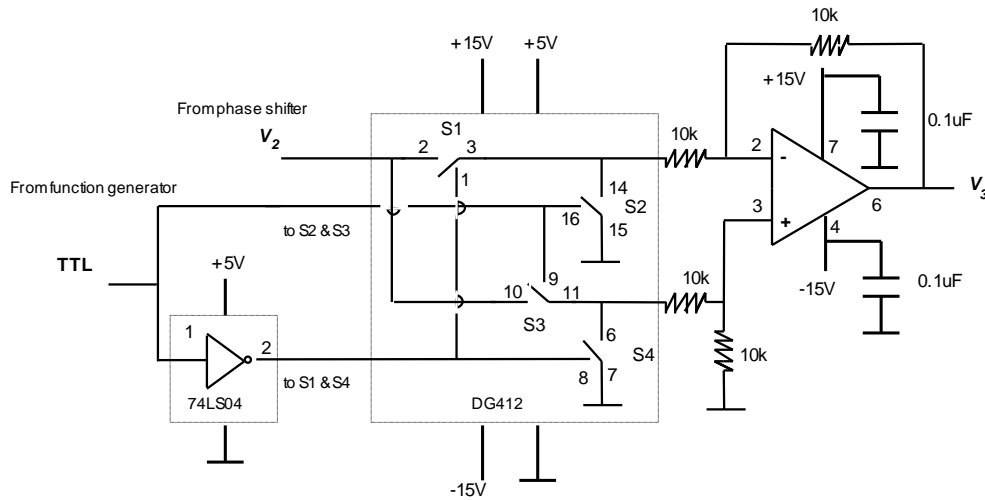

Fig. 3 Switch-based PSD circuit with pin numbers indicated
Fig. 3 shows a switch-based PSD circuit. It consists of an op-amp ($\mu A741$) and a single CMOS switch IC package (DG412) with 4 CMOS switches in it. The four CMOS switches are used to implement the demodulation process and these switches are controlled by two complementary square-wave signals, one from the TTL output of the function generator and the other from an inverter (74LS04). The two complementary square-wave signals drive
- (4) Place 74LS04 on your breadboard and connect 5V power supply to the chip. Connect the square-wave signal from your function generator to 74LS04. Examine the two square-wave signals from the inverter and the function generator, using your oscilloscope. Your oscilloscope screen showing the two signals can be saved to your USB memory. The two signals should be complimentary.
- (5) Add missing pin numbers to the PSD circuit shown in Fig. 3 and then build the circuit. Note that for your CMOS switch DG412, you need three power supplies, +15V, -15V and 5V. Connect the sine-wave signal **from your phase shifter** (not the original sine wave from the function generator) and the two square-wave signals to your PSD. **Before you switch on the power supply, please ask a demonstrator to check your power supply connections.** Examine the output signal from the PSD against the square wave. Save your oscilloscope screen, showing the two signals, to your USB memory.